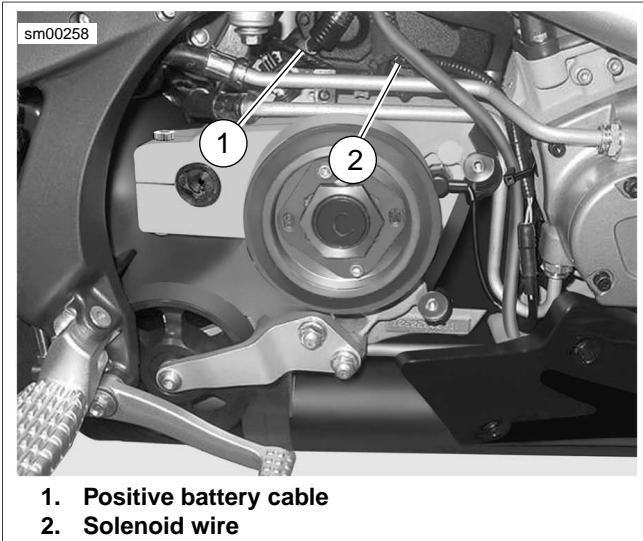

Figure 6-20. Starter Wires (Protective Boot Not Shown)
3. See Figure 6-20. Remove protective rubber boot from starter fastener. Remove fastener with washer to detach positive battery cable from starter.
- a. See Figure 6-20. First, connect positive battery cable to starter using fastener with washer. Tighten fastener to 60-85 **in-lbs** (7-10 Nm).